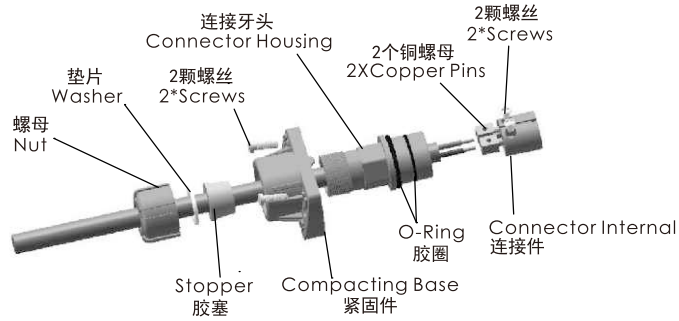

Figure 5
- 4) Assemble Retrofit connector. First, the cable thru Nut, Washer, Pressing Base in order (Attention: there are five sized stoppers), Connector Housing. Put Two sized O-Ring to Connector Housing. And insert two Copper Pins to Connector Internal, the power cable is thru Copper Pins and hold it tight by the screws. Pull the cable back and Tighten Nut, the front face is kept the flush for Connector Housing and Connector Internal. Figure 5
- 4) 组装防水接头。首先, 将电缆线依次穿过螺母, 垫片, 胶塞, 紧固件, 连接牙头(有5种规格的胶塞)。两个规格的O型胶圈套在连接牙头上, 两个铜螺母插到连接件里, 电缆线插到铜螺母里然后拧紧螺丝。将电缆线往回拉下并拧紧螺母, 使连接牙头和连接件的前端保持齐平。如图5